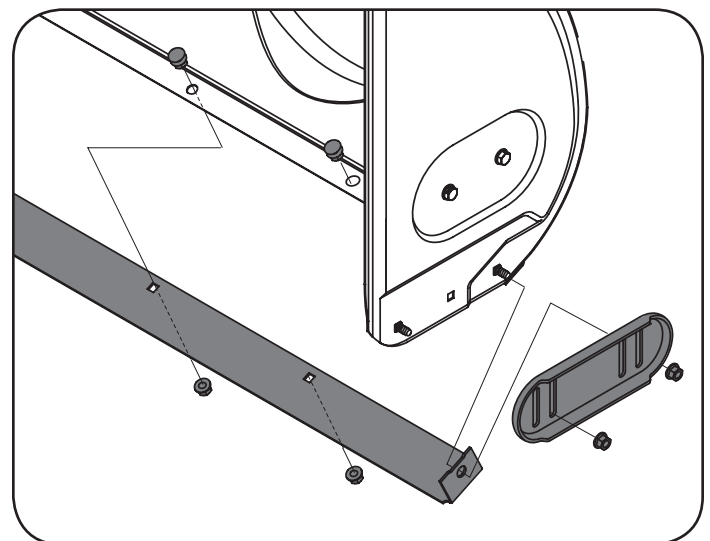

Figure 21
2. Reassemble new skid shoes with previously removed hardware. Refer to Figure 21.